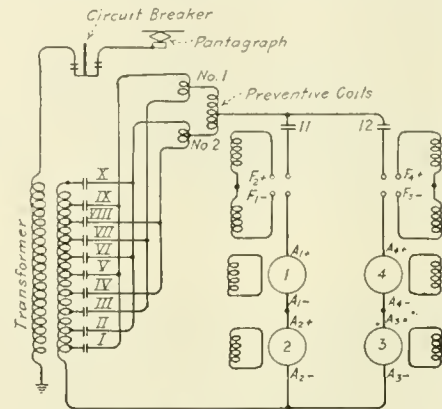

FIG. 21. SCHEMATIC DIAGRAM MAIN CIRCUITS A. C. LOCOMOTIVE.
A.—A schematic diagram of connections for an A.C. locomotive is shown by Fig. 21. This schematic diagram shows the pantagraph trolley which collects the power from the overhead wire, the circuit breaker through which the high-tension current passes, and the transformer, which is of the double-coil type—the other end of the primary of the transformer being connected to ground. The secondary of the transformer has, in this case, ten taps which are connected to switches marked from I to X. These taps, after passing through the switches, connect to four leads running to the preventive coils, every fourth tap connecting to the same lead. From the preventive coils one lead is taken as the source of supply, and divides into two circuits, feeding two motors in series in each circuit.